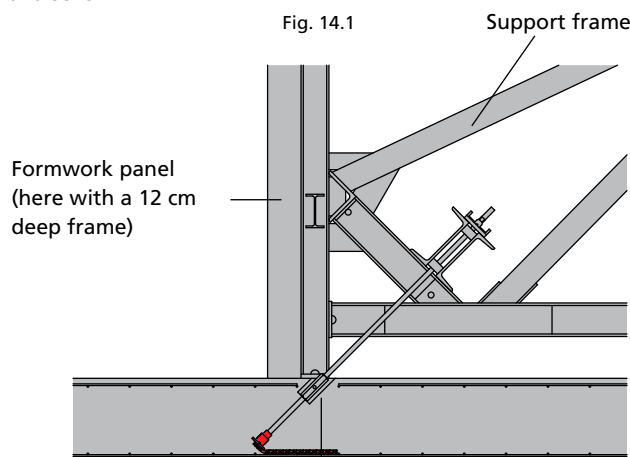
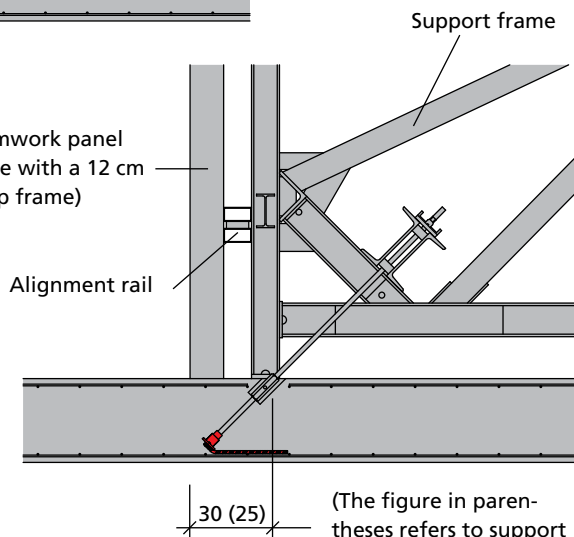

Fig. 14.2
Fig. 14.3
■ 20 cm when using support frames STB 450 (Fig. 14.2). It is 30 cm when also using alignment rails (Fig. 14.3).